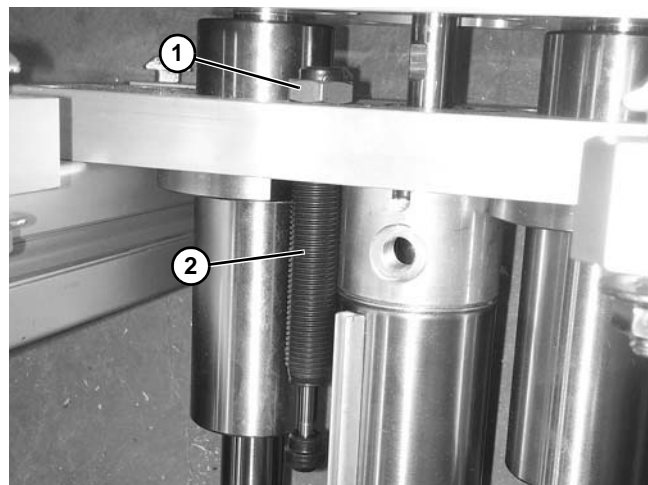

Figure 59
1. Loosen lock nut (**Figure 59, item 1**) on shock absorber (**Figure 59, item 2**) next to cylinder.